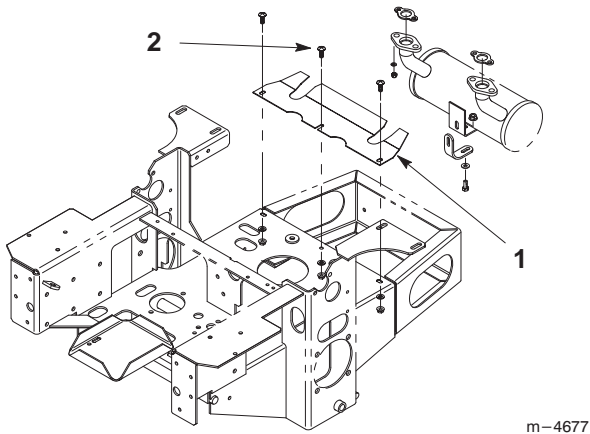

Figure 5
4. Loosely install new hardware in the center slot in the engine deck (Fig. 5).